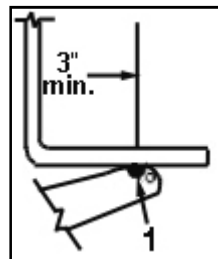

Fig. 7: Using serrated lift pad
- If no structural component exists and one cannot be created, flip the serrated lift pad into an upward position and choose a lift point at least 3" inward toward the center of the vehicle on a flat surface (see Fig. 7).